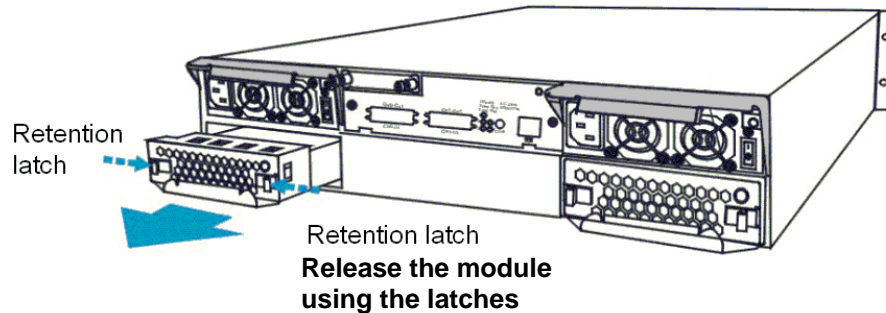

Figure 5- 10: Removing the Cooling Fan Module
- Step 1. **To remove the cooling fan module:** Squeeze both side latches towards the center of the cooling fan module and gently withdraw the cooling fan module from the subsystem by gently pulling on the silver handle at the bottom. (See **Figure 5- 10**).